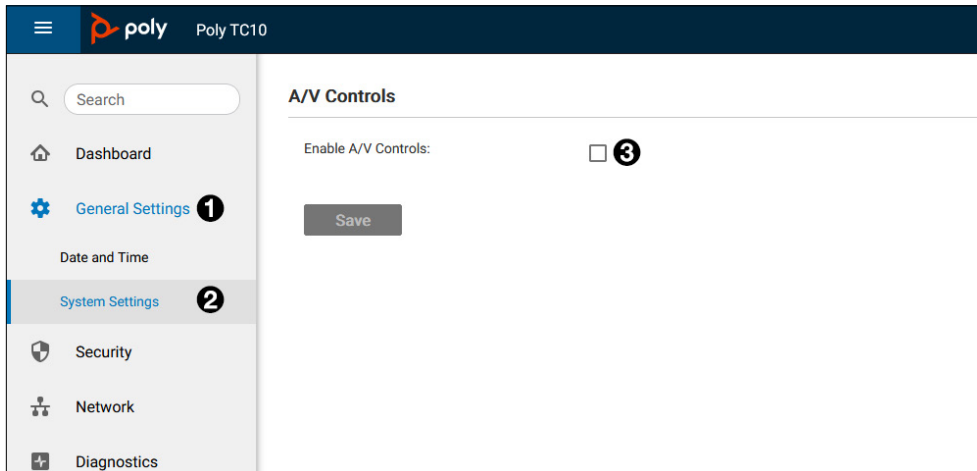

Figure 7. Enable A/V Controls
3. Navigate to **General Settings** (see figure 7, ❶) then to **System Settings** (❷).
4. Check **Enable A/V Controls** (❸).